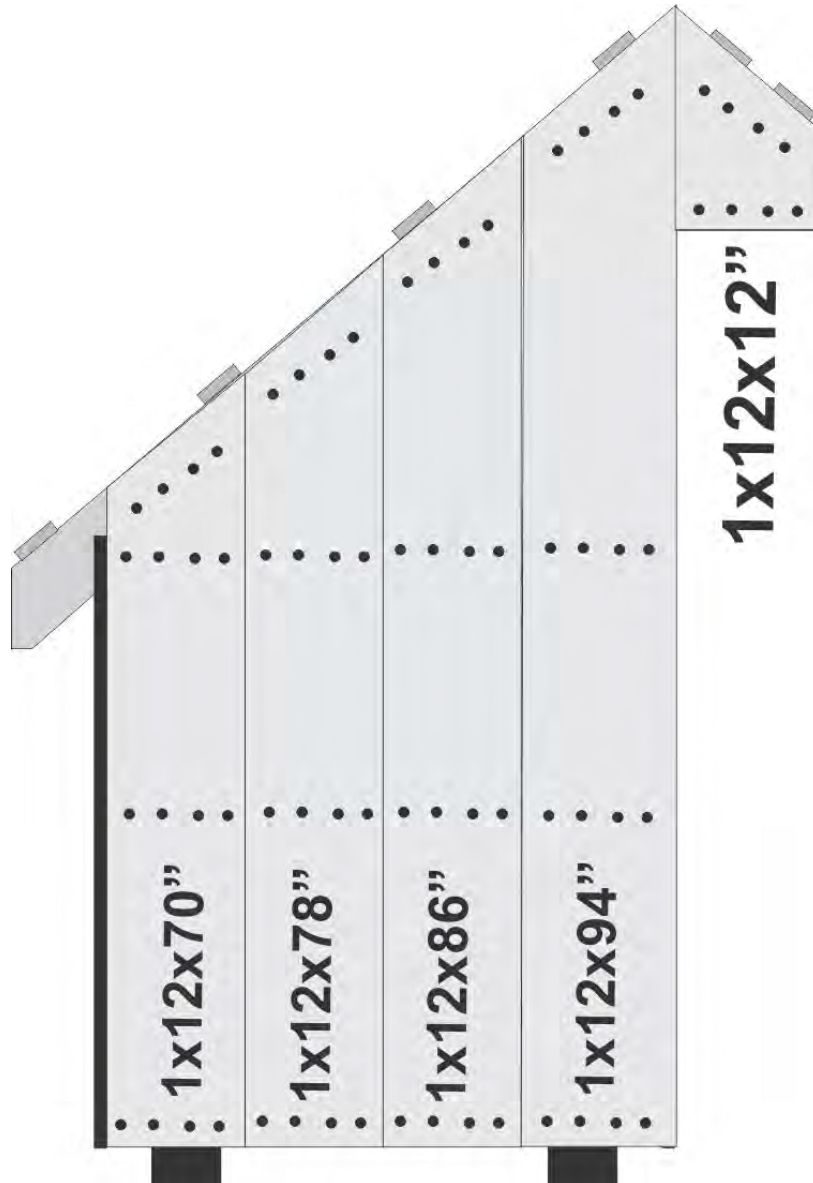

Figure 4
Step 2. Nail to the rim joist, horizontal nailer, top plate and rafters. Allow siding to hang below rim joists a ¼”. Use four 6d galvanized nails at each floor joist, nailer, top plate & rafter. 16 nails for each 1x12 siding board. Figure 4.